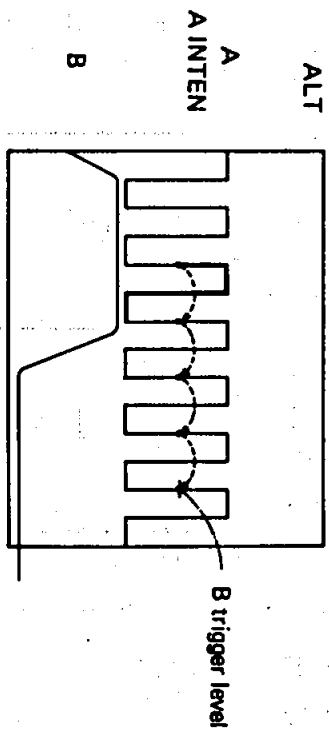
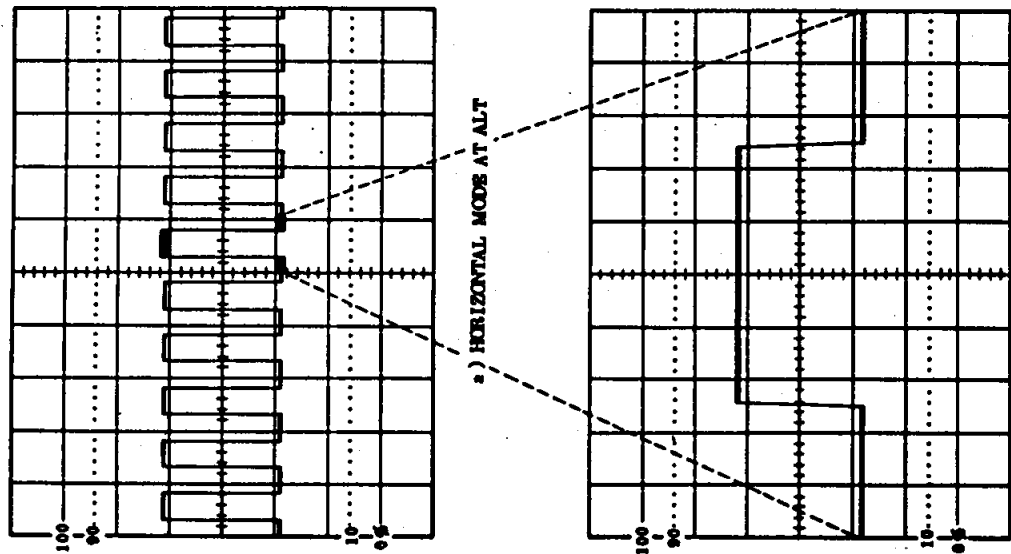

Figure 4-12.
Figure 4-11.
(1) B sweep (Continuous delay)
B sweep is operated by setting HORIZONTAL MODE SWITCH ⑩ in the ALT state (Both A and B depressed). In this case, A sweep displays the delay time who B sweep starts. B TIME/DIV switch ⑪ determines the sweep time of sweep started in delay. The example of the waveform gained by pressing A. B switch is shown as a) of Figure 4-11. The time From A sweep start to bright part is regarded as the time determined by A TIME/DIV ⑫ and the bright part of the trace shown in a) is displayed as B sweep.
(2) B TRIG'D Switch.
- a) When pressed B TRIG'D switch, B sweep starts right after delay time passes as the continuous delay status shown in Figure 4-12.
- b) When pressed B TRIG'D Switch, CRT screen displays the status of trigger delay as shown in a) b' of Figure 4-12. Operation method of B sweep triggering level is same as that of A sweep.